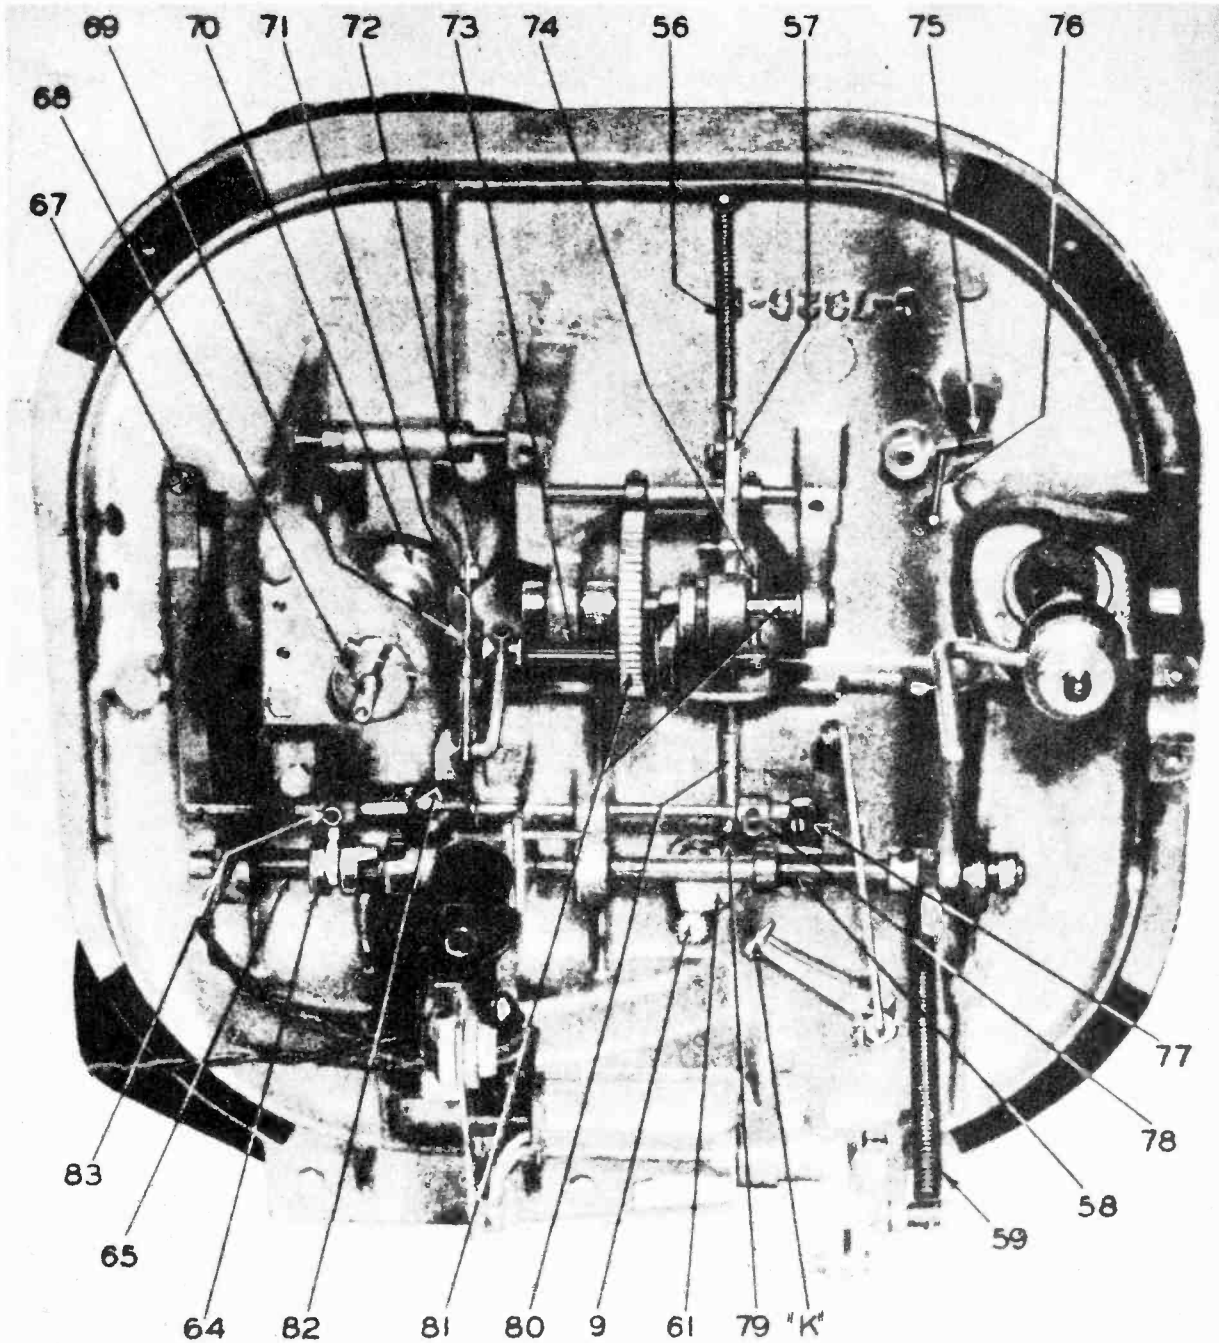

Fig. 4
2. Replace the main cam shaft and its bushings, but do not tighten the bushings in place. Make sure that the gears marked in (9) above are meshing properly as marked. Make sure the throw-out cam 71 Fig. 4 is resting on top of the main shaft.